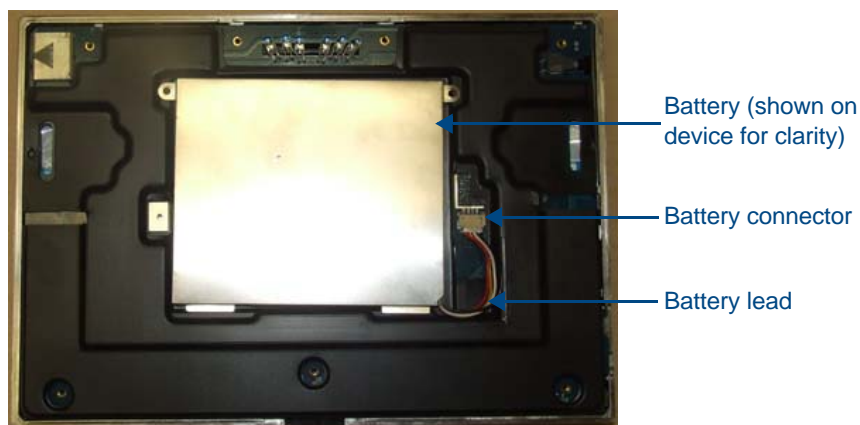

FIG. 116 Interior of MVP-9000i, including female battery connector
7. Carefully remove the back of the device and detach the battery lead at the battery connector (FIG. 116). This will allow the back cover to be detached from the device.
2. Make sure to seat fully the battery plug to the connector in the device (FIG. 116). If fingers cannot be used, use a clean, nonconductive stick or probe to seat the connectors.